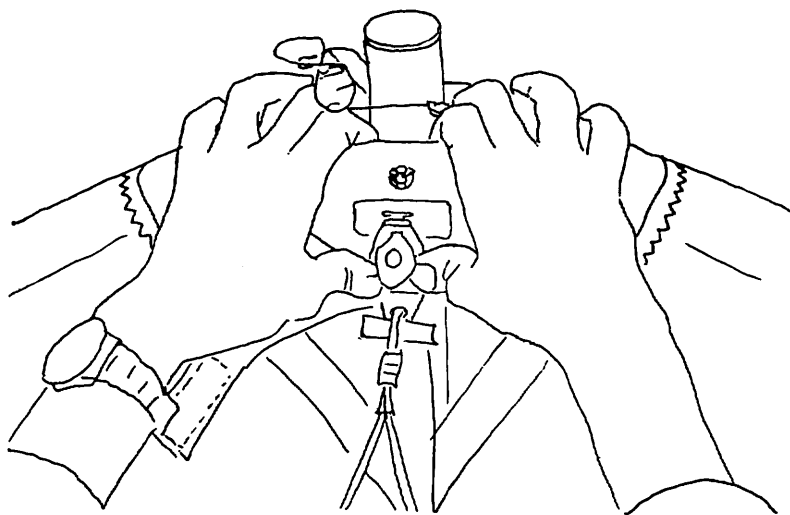

FIG 23
16) Attach the bottom front wires at the nose using the following procedure: First, be sure that the glider is sitting as level as possible, that neither wing tip is resting hard on the ground, and that the control bar base is pulled all the way forward so as to tension the bottom rear wires and put the rear of the keel on the ground. Lift the keyhole tang to the head of the bolt on the bottom of the keel. Press upward on the tang while pulling down on the nose of the glider (Fig 23), and the tang will slide over the bolt and pop into place. Note: Do not try to use the "T" handle on the tang, it is used only for removing the tang. Press instead on the tang itself on either side of the hole. Attach the rubber safety.